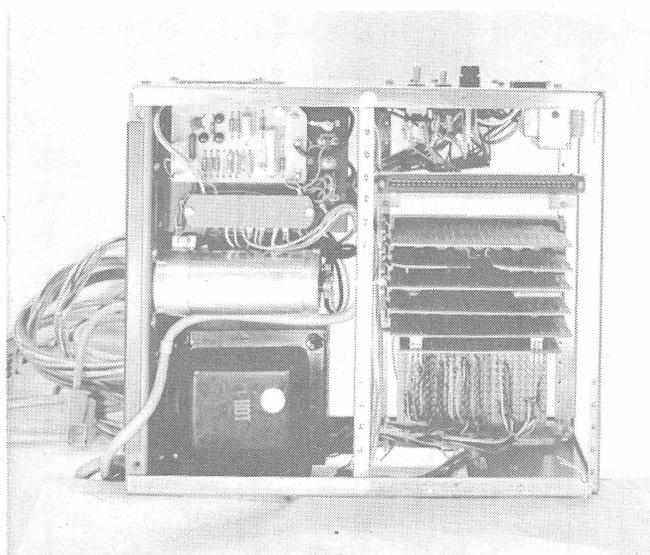

Figure 11 - 37 Electrical Service Unit (YESU)
4.17 Carefully unpack the electrical service unit (Figure 11). Refer to the ordering information to check that the desired circuit cards are installed in the electrical service unit. Refer to the CD (circuit description) and the wiring diagrams (WDs) in WDP0283 packed with the set for information concerning the circuit cards. See Table A.